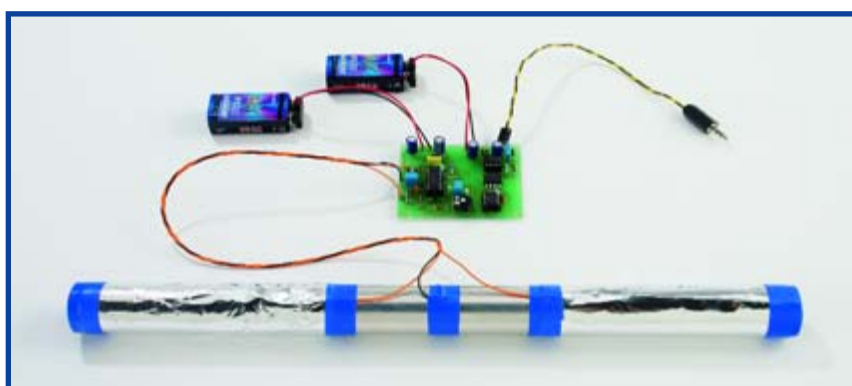

Figure 1. This simple sensor for heart signals consists of a pipe with a contact surface at either end.
- ECG acquisition: if the electrodes are properly placed and the patient is calm, the reading should be stabilised in a few seconds and look like the one illustrated in **Figure 1**.
sensor (see **Figure 1**), which in the simplest case can be just a tube with contact surfaces at either end that can be gripped like the handlebars of a bicycle. The weak signal that is picked up is amplified by a factor of 1,000 and presented to the audio input of the computer.